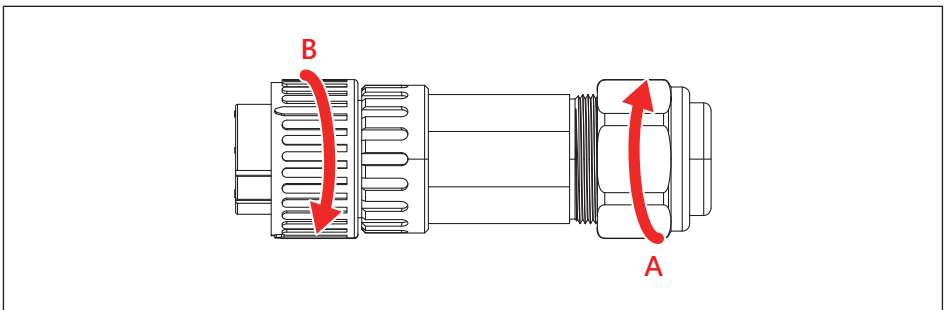

Figure 3-12 : Rotate the AC plug to fit
3. Rotate part A & B as **Figure 3-12** to fit and fix it onto the inverter.